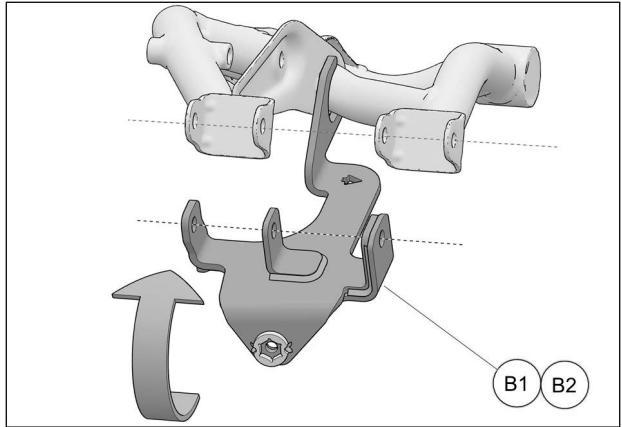

Fig. 6
6. Rotate bracket (**B1-B2**) upward to align its holes with the holes in the suspension arm. See Fig. 6